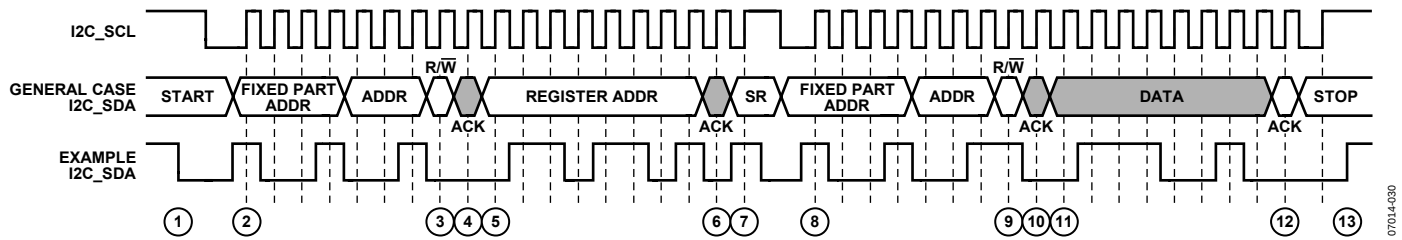

Figure 30. I²C Read Diagram
To read data from the AD8197A register set, an I²C master (such as a microcontroller) needs to send the appropriate control signals to the AD8197A slave device. The signals are controlled by the I²C master, unless otherwise specified. For a diagram of the procedure, see Figure 30. The steps for a read procedure are as follows:
9. Send the read indicator bit (1).
- 13a. Send a stop condition (while holding the I2C\_SCL line high, pull the SDA line high) and release control of the bus to end the transaction (shown in Figure 30).